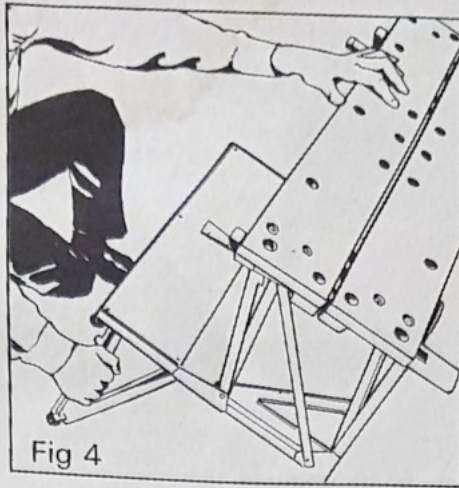
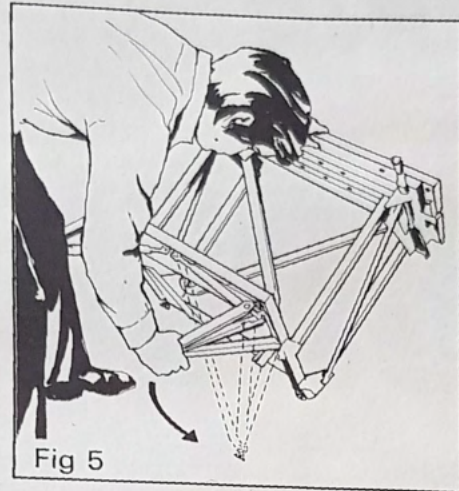

Fig 4
Fig 5
- 1 Tilt the Workmate away from you and pull out the front legs located under the footboard (Fig. 4), ensure that the leg support struts are fully extended (Fig. 5).